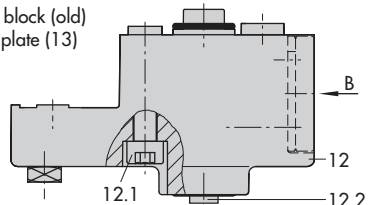

Fig. 5 - Direct attachment – Signal pressure connection for Type 3277 Actuator with 175 to 750 cm2
Mount the positioner on the yoke as shown in Fig. 5. The signal pressure is routed to the actuator over the connection block (12), for actuators with fail-safe action "Actuator stem extends" internally through a bore in the valve yoke and for "Actuator stem retracts" through external piping.
1. Place follower clamp (3) on the actuator stem, align and screw tight so that the mounting screw is located in the groove of the actuator stem.
2. Mount cover plate (10) with narrow side of the cut-out opening (Fig. 5, on the left) pointing towards the signal pressure connection. Make sure that the bonded gasket (14) points towards the actuator yoke.
3. For actuators with 355, 700 and 750 cm2, remove the follower pin (2) at lever **M** (1) on the back of the positioner from pin position **35**, reposition it in the bore for pin position **50** and screw tight. For actuators 175, 240 and 350 cm2 with 15 mm travel, the follower pin (2) remains in pin position **35**.
4. Insert formed seal (15) in the groove of the positioner casing.
6. Make sure that the tip of the gasket (16) projecting from the side of the connection block (12) is positioned above the actuator symbol that corresponds with the actuator with fail-safe action "Actuator stem extends" or "Actuator stem retracts." If necessary, remove the three fixing screws and the cover. Then reposition the gasket (16) turned by 180°. The previous version of the connection block (Fig. 5, bottom) requires the switch plate (13) to be turned such that the corresponding actuator symbol points to the marking.
7. Place the connection block (12) with the associated seal rings against the positioner and the actuator yoke. Screw it tight using the fixing screw (12.1). For actuators with fail-safe action "Actuator stem retracts", additionally remove the stopper (12.2) and fit on the external signal pressure piping.
8. Mount cover (11) on the other side. Make sure that the vent plug points downwards when the control valve is installed to allow any condensed water that collects to drain off.